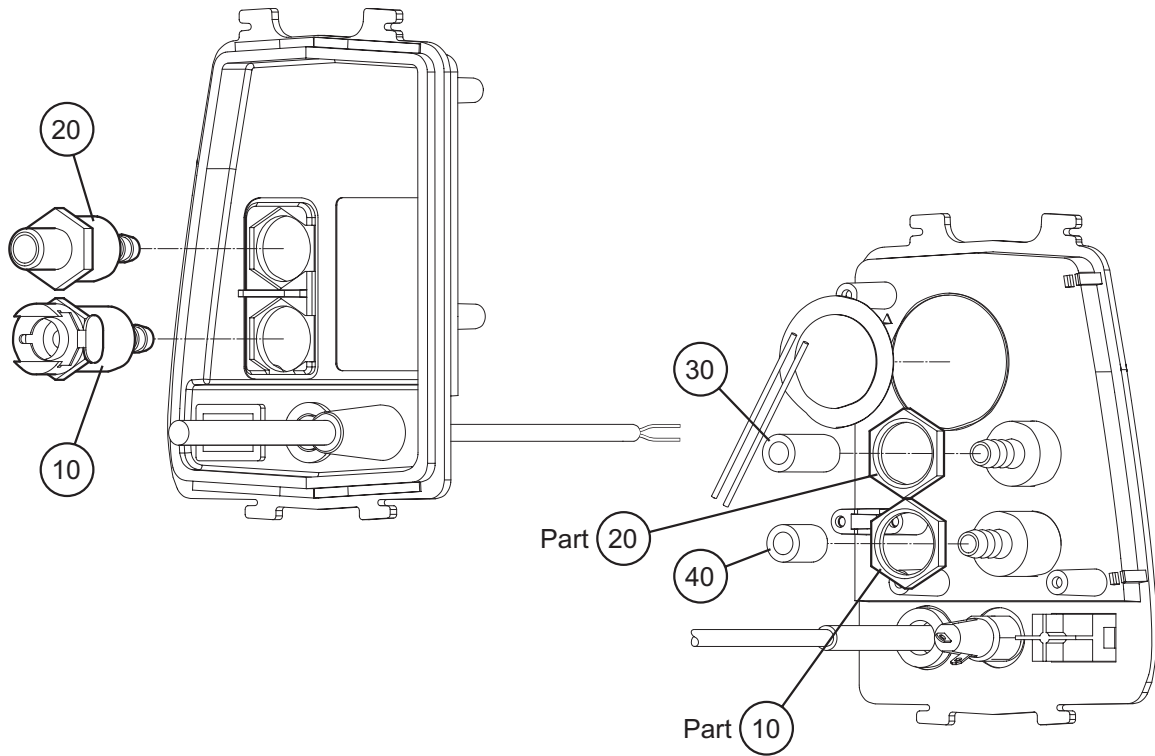

Figure 23 - Snap-lock Connectors
- 38.4 Replace the switch with same type. Ensure correct orientation of the switch (symbol ● nearest the fuse). Ensure that the retaining flanges snap into position. Refer to the wiring diagram (Chap. 4, Fig 23) when reconnecting the electrical wires for the electronic version of the pump and (Chap. 4, Fig 24) when connecting the electrical wires for the mechanical version of the pump.